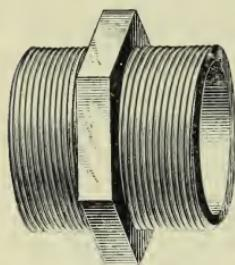

FIG. 27
**41.** A nipple with a hexagon center is shown in Fig. 27. It is made of malleable iron cast in the form of a sleeve.